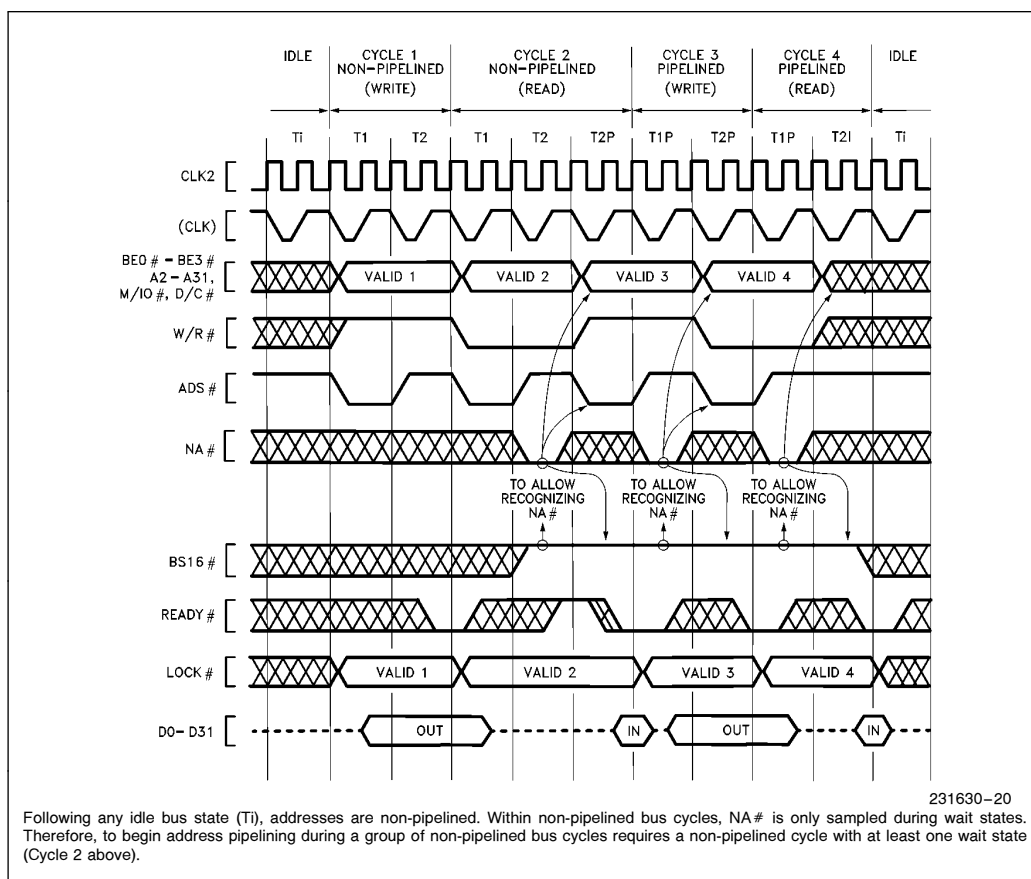
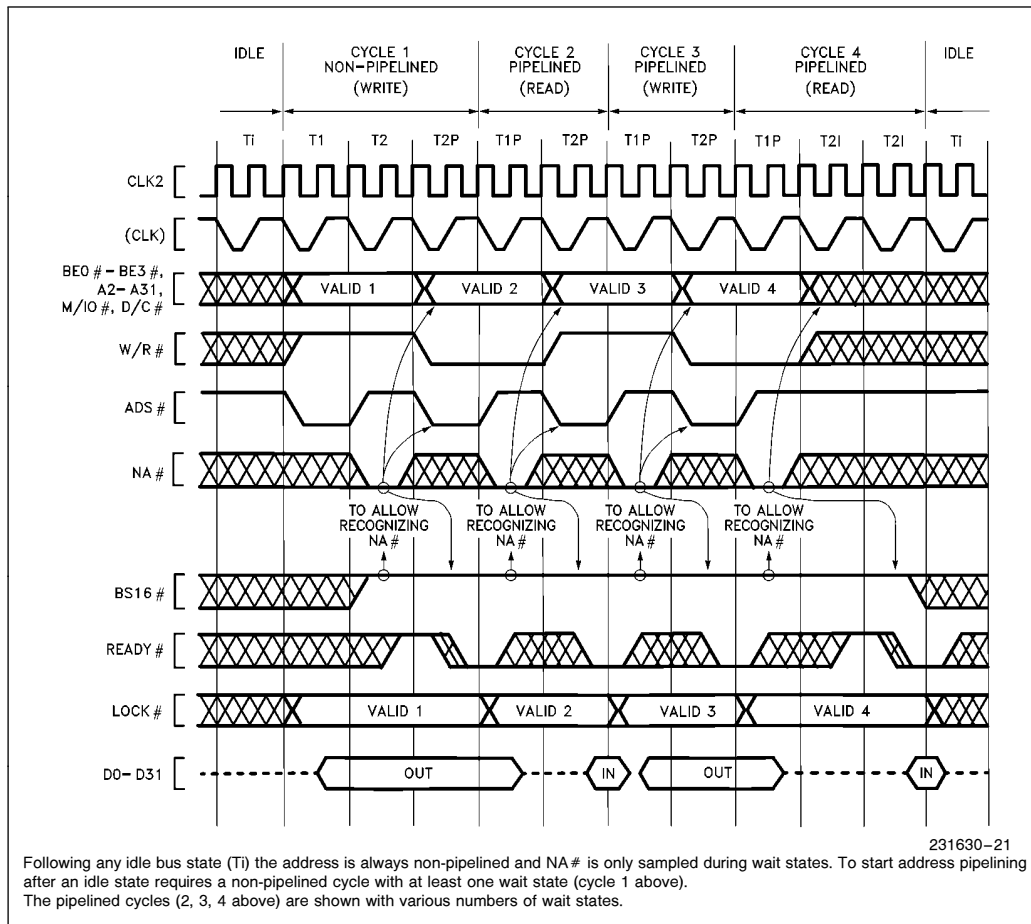
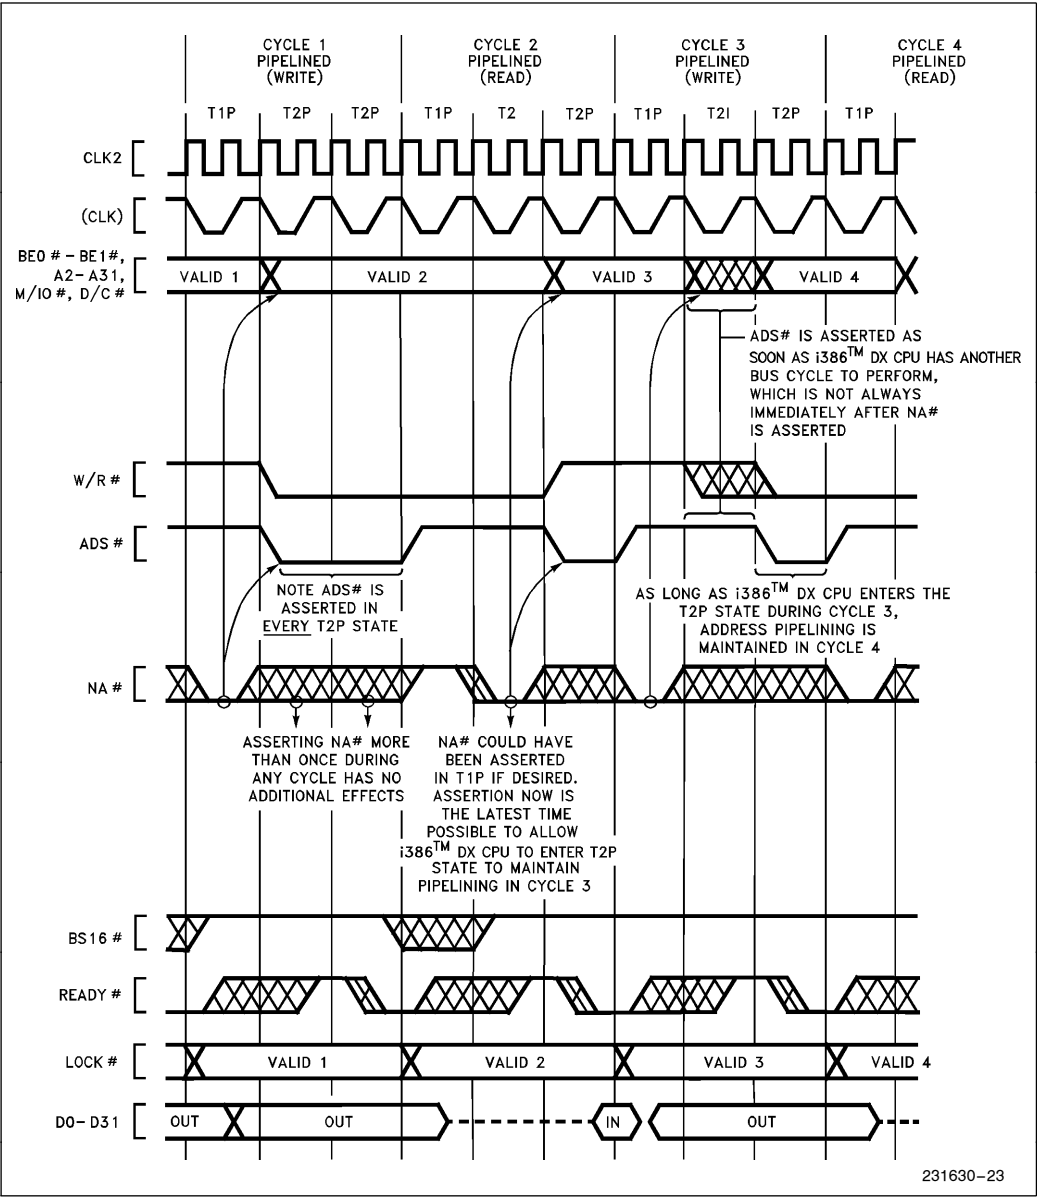

Figure 5-16. Transitioning to Pipelined Address During Burst of Bus Cycles
Figure 5-17. Fastest Transition to Pipelined Address Following Idle Bus State
Figure 5-19. Details of Address Pipelining During Cycles with Wait States
Once a bus cycle is in progress and the current address has been valid for at least one entire bus state, the **NA#** input is sampled at the end of every phase one until the bus cycle is acknowledged. During non-pipelined bus cycles, therefore, **NA#** is sampled at the end of phase one in every T2. An example is Cycle 2 in Figure 5-16, during which **NA#** is sampled at the end of phase one of every T2 (it was asserted once during the first T2 and has no further effect during that bus cycle).
- 1) For **NA#** to be sampled asserted, **BS16#** must be negated at that sampling window (see Figure 5-16 Cycles 2 through 4, and Figure 5-17 Cycles 1 through 4). If **NA#** and **BS16#** are both sampled asserted during the last T2 period of a bus cycle, **BS16#** asserted has priority. Therefore, if both are asserted, the current bus size is taken to be 16 bits and the next address is not pipelined.
- 2) The next address may appear as early as the bus state after NA# was sampled asserted (see Figures 5-16 or 5-17). In that case, state T2P is entered immediately. However, when there is not an internal bus request already pending, the next address will not be available immediately after NA# is asserted and T2I is entered instead of T2P (see Figure 5-19 Cycle 3). Provided the current bus cycle isn't yet acknowledged by READY# asserted, T2P will be entered as soon as the Intel386 DX does drive the next address. External hardware should therefore observe the ADS# output as confirmation the next address is actually being driven on the bus.
must assume the current bus size is 32 bits. Therefore if NA# is sampled asserted within a bus cycle, BS16# must be negated thereafter in that bus cycle (see Figures 5-16, 5-17, 5-19). Consequently, do not assert NA# during bus cycles which must have BS16# driven asserted. See 5.4.3.6 Dynamic Bus Sizing with Pipelined Address.
- 4) Any address which is validated by a pulse on the Intel386 DX ADS# output will remain stable on the address pins for at least two processor clock periods. The Intel386 DX cannot produce a new address more frequently than every two processor clock periods (see Figures 5-16, 5-17, 5-19).
- 5) Only the address and bus cycle definition of the very next bus cycle is available. The pipelining capability cannot look further than one bus cycle ahead (see Figure 5-19 Cycle 1).
The transition to pipelined address is shown functionally by Figure 5-17 Cycle 1. Note that Cycle 1 is used to transition into pipelined address timing for the subsequent Cycles 2, 3 and 4, which are pipelined. The NA# input is asserted at the appropriate time to select address pipelining for Cycles 2, 3 and 4.
Once a bus cycle is in progress and the current address has become valid, the NA# input is sampled at the end of every phase one, beginning with the next bus state, until the bus cycle is acknowledged. During Figure 5-17 Cycle 1 therefore, sampling begins in T2. Once NA# is sampled asserted during the current cycle, the Intel386 DX is free to drive a new address and bus cycle definition on the bus as early as the next bus state. In Figure 5-16 Cycle 1 for example, the next address is driven during state T2P. Thus Cycle 1 makes the transition to pipelined address timing, since it begins with T1 but ends with T2P. Because the address for Cycle 2 is available before Cycle 2 begins, Cycle 2 is called a pipelined bus cycle, and it begins with T1P. Cycle 2 begins as soon as READY# asserted terminates Cycle 1.
Example transition bus cycles are Figure 5-17 Cycle 1 and Figure 5-16 Cycle 2. Figure 5-17 shows transition during the very first cycle after an idle bus state, which is the fastest possible transition into address pipelining. Figure 5-16 Cycle 2 shows a transition cycle occurring during a burst of bus cycles. In any case, a transition cycle is the same whenever it occurs: it consists at least of T1, T2 (you assert NA# at that time), and T2P (provided the Intel386 DX has an internal bus request already pending, which it almost always has). T2P states are repeated if wait states are added to the cycle.
Note three states (T1, T2 and T2P) are only required in a bus cycle performing a **transition** from non-pipelined address into pipelined address timing, for example Figure 5-17 Cycle 1. Figure 5-17 Cycles 2, 3 and 4 show that address pipelining can be maintained with two-state bus cycles consisting only of T1P and T2P.
Once a pipelined bus cycle is in progress, pipelined timing is maintained for the next cycle by asserting NA# and detecting that the Intel386 DX enters T2P during the current bus cycle. The current bus cycle must end in state T2P for pipelining to be maintained in the next cycle. T2P is identified by the assertion of ADS#. Figures 5-16 and 5-17 however, each show pipelining ending after Cycle 4 because Cycle 4 ends in T2I. This indicates the Intel386 DX didn't have an internal bus request prior to the acknowledgement of Cycle 4. If a cycle ends with a T2 or T2I, the next cycle will not be pipelined.